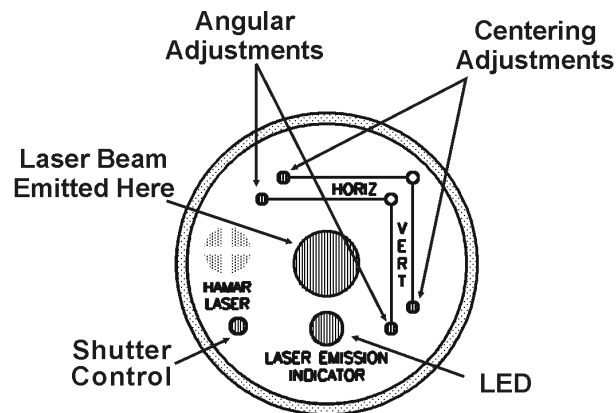

Figure 31
4. Adjust the Angular Adjustment screws on the laser (see Figure 31) until the VSlope and HSlope readings are within ± 0.010 in/ft (or 0.8 mm/m if using metric units) and click **Next** (Alt-N).